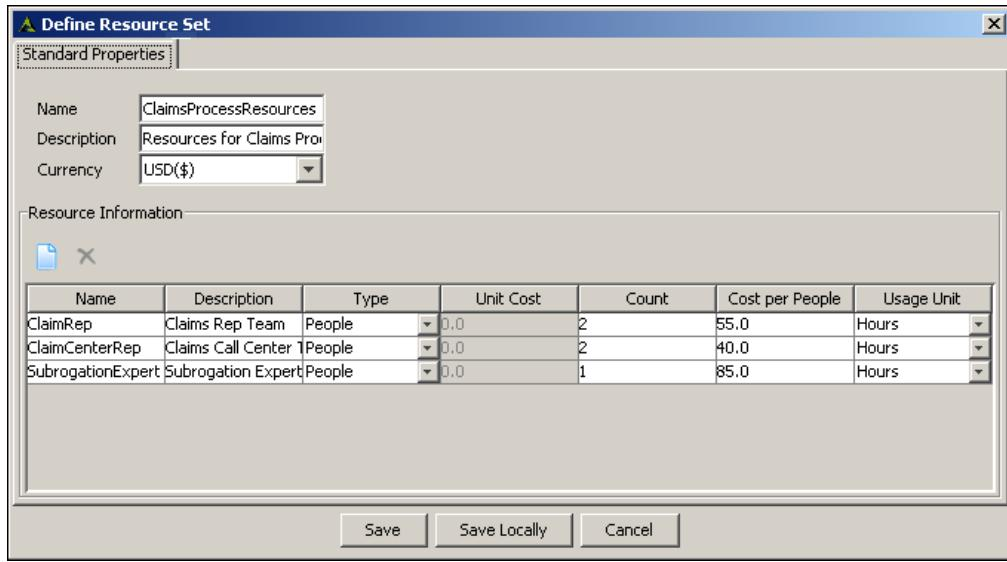

Figure 5: Add New Resource
4. To create a new resource, click **Create New Resource** () icon. A new row is added, in *Resource Information* Pane, where you can enter the name, description, and cost etc of the new resource (see Figure 5).